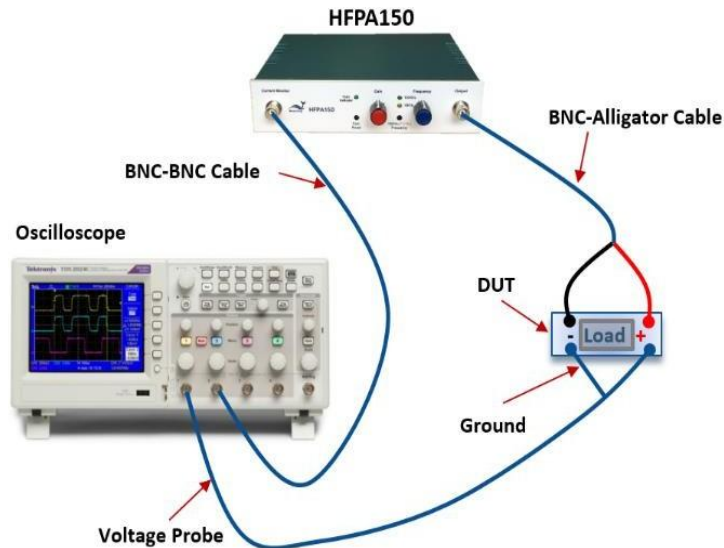

Figure 7: Test Wiring Diagram
2. Connect the “Output” port with the BNC to alligator clip cable. Connect the other end of this cable to the analytes (DUT) and voltage probes connect with the oscilloscope CH1 (as shown in Figure 7)